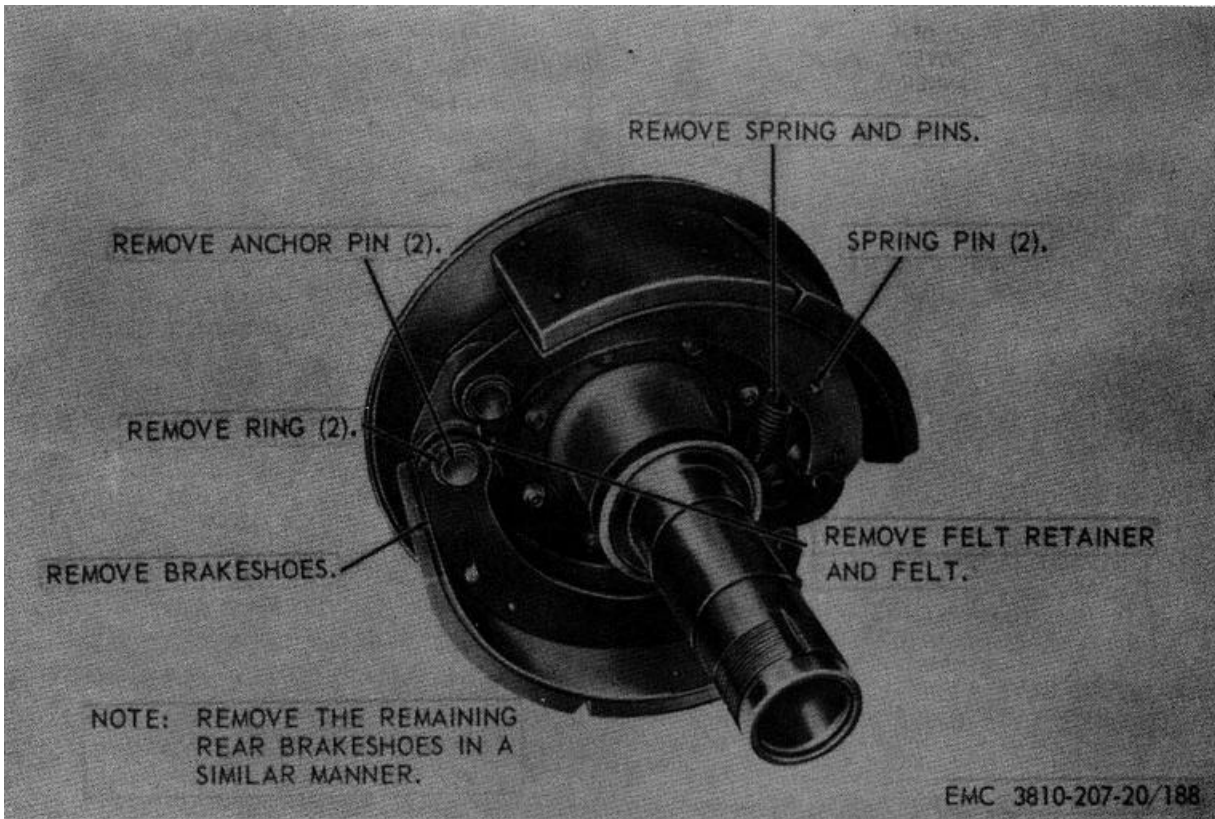

Figure 188. Rear brakeshoes, removal and installation.
- (1) Disconnect hoses and remove tractor protection valve (par. 297).
- (2) Remove the stoplight switch (par. 237).
- (3) Remove the lower double check valve (fig. 188) by turning counterclockwise out of the tee.
- (4) Remove the upper check valve by turning counterclockwise out of the protection valve.
- (1) Remove the wheel and drum from brake assembly (par. 285).
- (2) Remove the rear brakeshoes as instructed on figure 188.
- (1) Install the rear brakeshoes as illustrated on figure 188.
- (2) Install the drum and wheel (par. 285).